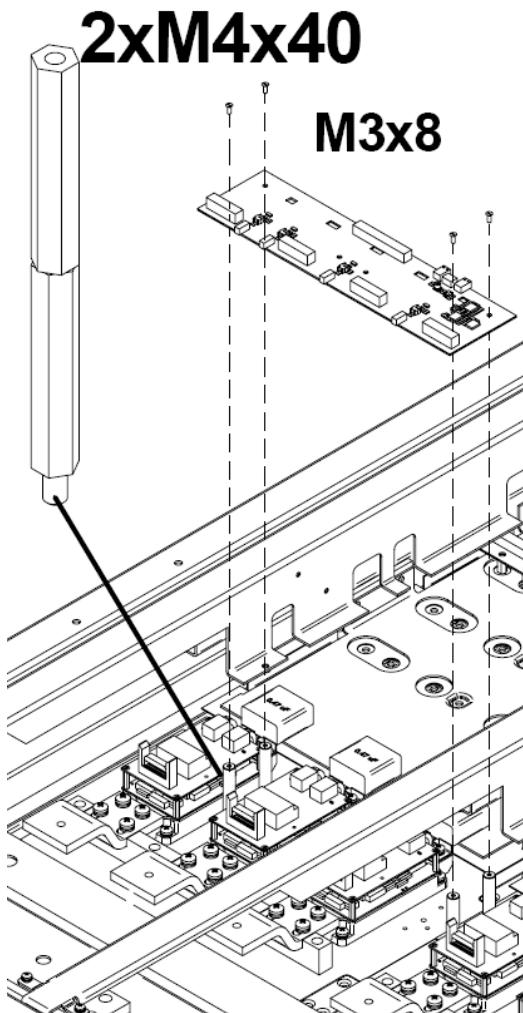

Figure 7.15. Disassembly of the IGBT's Connector Board
Follow *figure 7.15* while reading these instructions:
- 2) Put the new board on the hexagonal spacers **M3x18**. (*figure 7.15*).